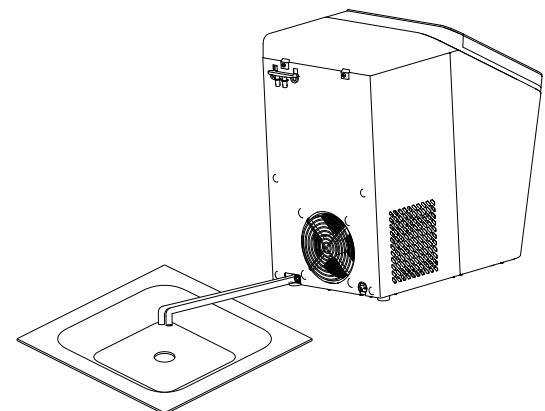

Figure 4
4. Next, lay the hoses down to drain into a sink or bucket that is below the level of the ice maker. See Figure 4.